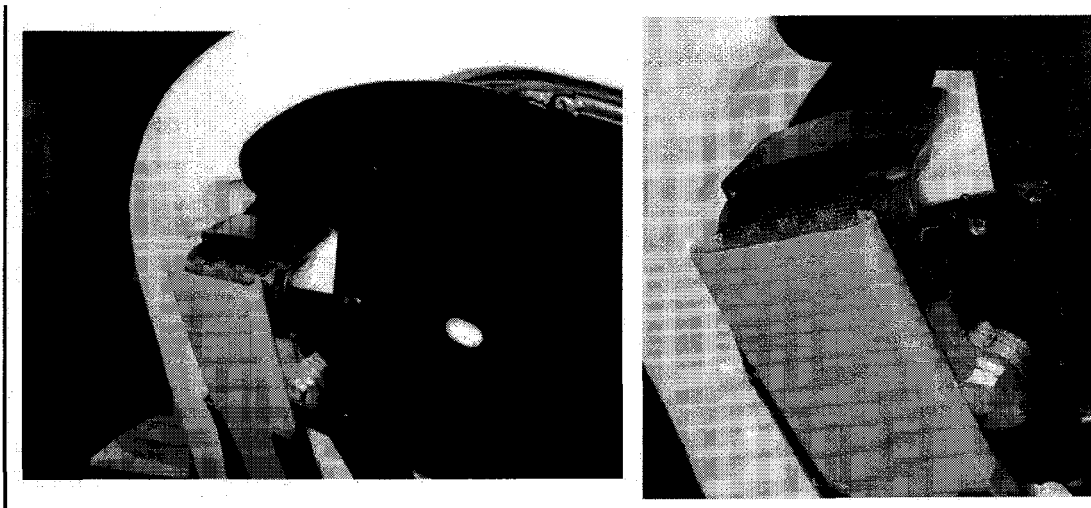

FIGURE 8. Seat Belt Channel and Guide (Grey Foam Removed for Clarity)
5. Starting at the upper back of the seat back, ***carefully*** pull the grey foam away from the left side of the seat back just enough to expose the top of the seat belt channel on the rear of the seat. The grey foam is attached with adhesive. See FIGURE 8.